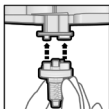

Fig. 2
3. Place one of the enclosed Dynamix Mixing Tips over the outlets of the cartridge (Fig. 2)